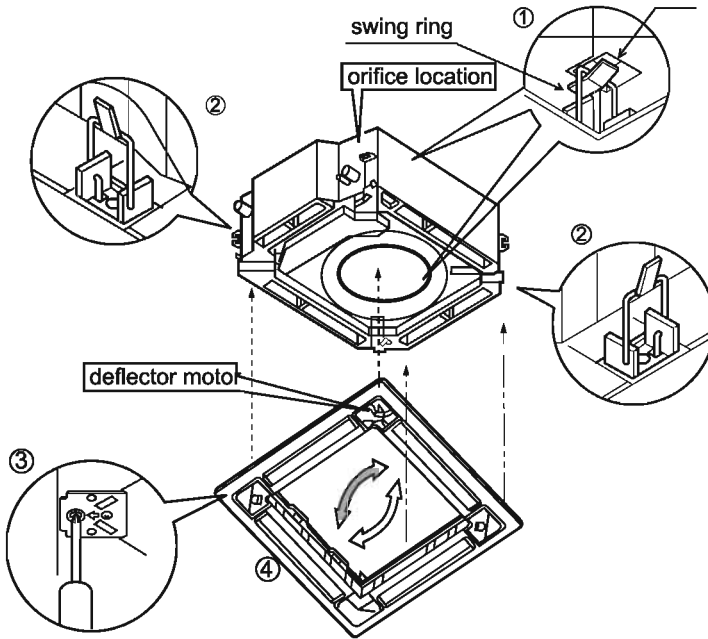

Fig.1
- As shown in Fig. 1, make the wind deflector motor of the decorated board face to the orifice of the indoor unit, and then mount the decorated board onto the body of the indoor unit.